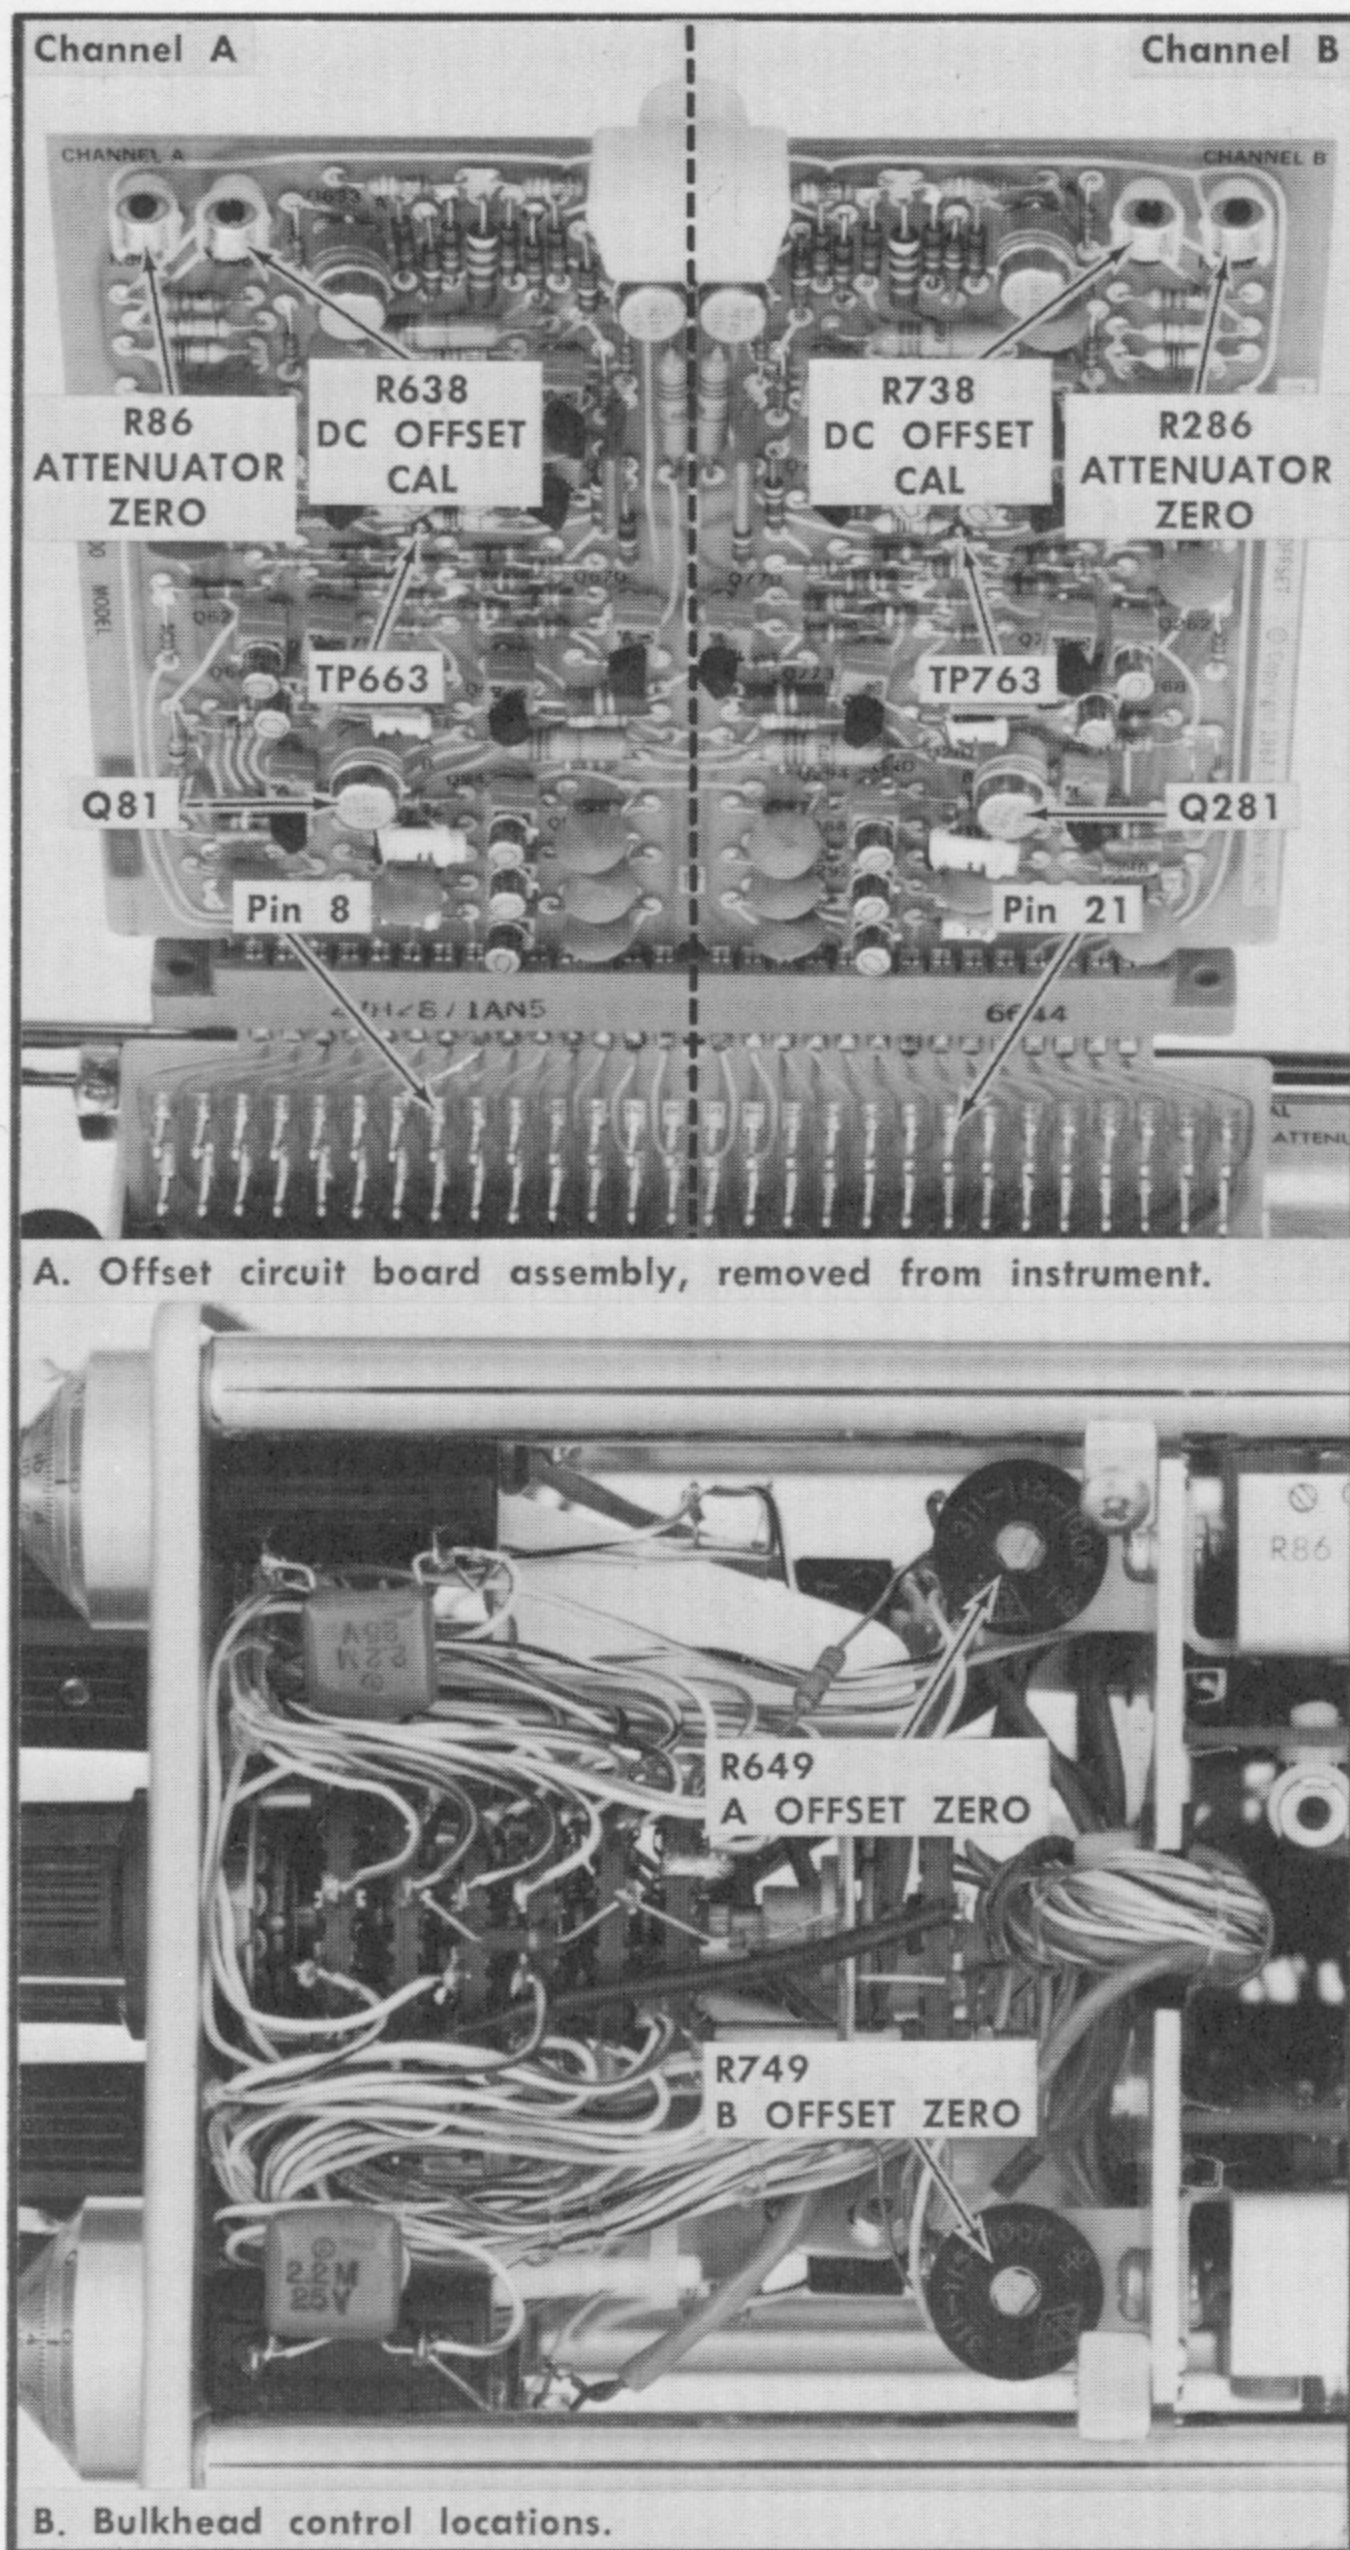

Fig. 7-15. Control locations, Type 355 top view.
d. Check that the test oscilloscope trace is at the centerline,  $-995$  mV at TP663. If trace is not at the centerline, adjust the A OFFSET CAL control, R638 shown in Fig. 7-15, for  $-995$  mV, trace at test oscilloscope centerline.
g. Repeat the check and/or adjustment for the B CHANNEL, using TP763. Control locations are shown in Fig. 7-15.